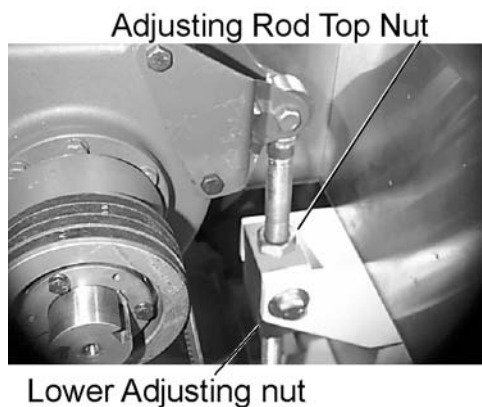

Figure 58 Loosen Belt Tension
5. Loosen Belt tension by turning adjusting nuts and remove the V-belts. See Figure 58